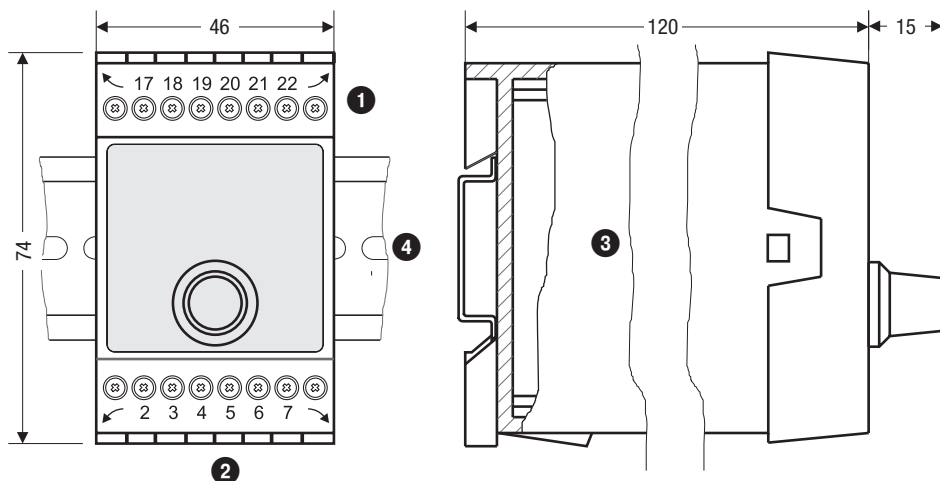

Fig. 3
The NRS 2-50, NRS 2-51 level switch is clipped onto a type TH 35, EN 60715 support rail in the control cabinet. **Fig. 3 ④**